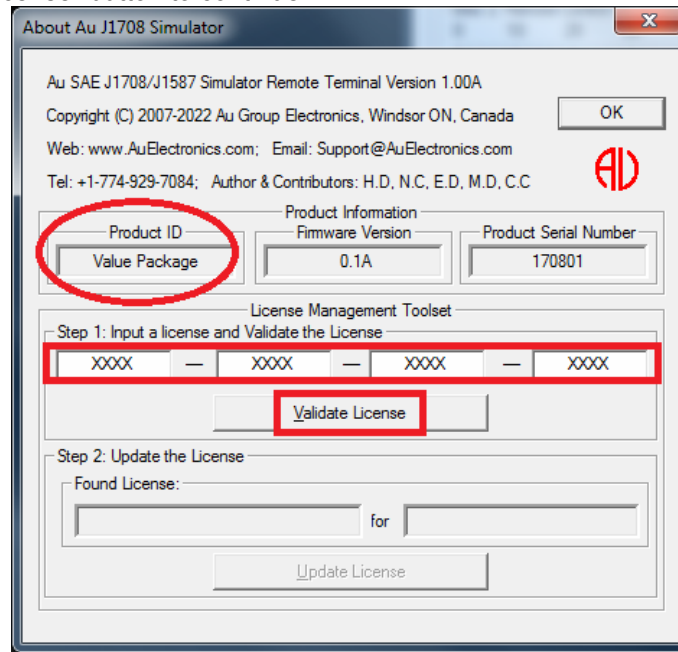

Figure 6-10
4. A "About Au J1708/J1587 Simulator" window will pop up (Figure 6-10). Enter a validate license code, and then click "Validate license" button to continue.